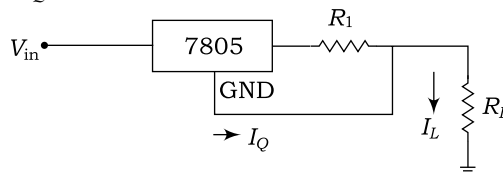

Fig. 1.41
27. Figure 1.41 shows a circuit of a current regulator. What is the value of R_1 to provide a constant current of 1 A. Assume $I_Q = 10$ mA.